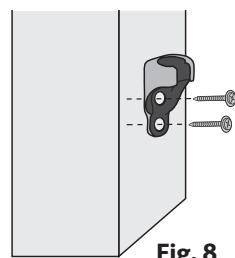

Fig. 8
- A. Install the Receivers (**Fig. 8**) approximately 5 in. (13 cm) below where the Shade will stop to allow for proper tension of Bungee cord.